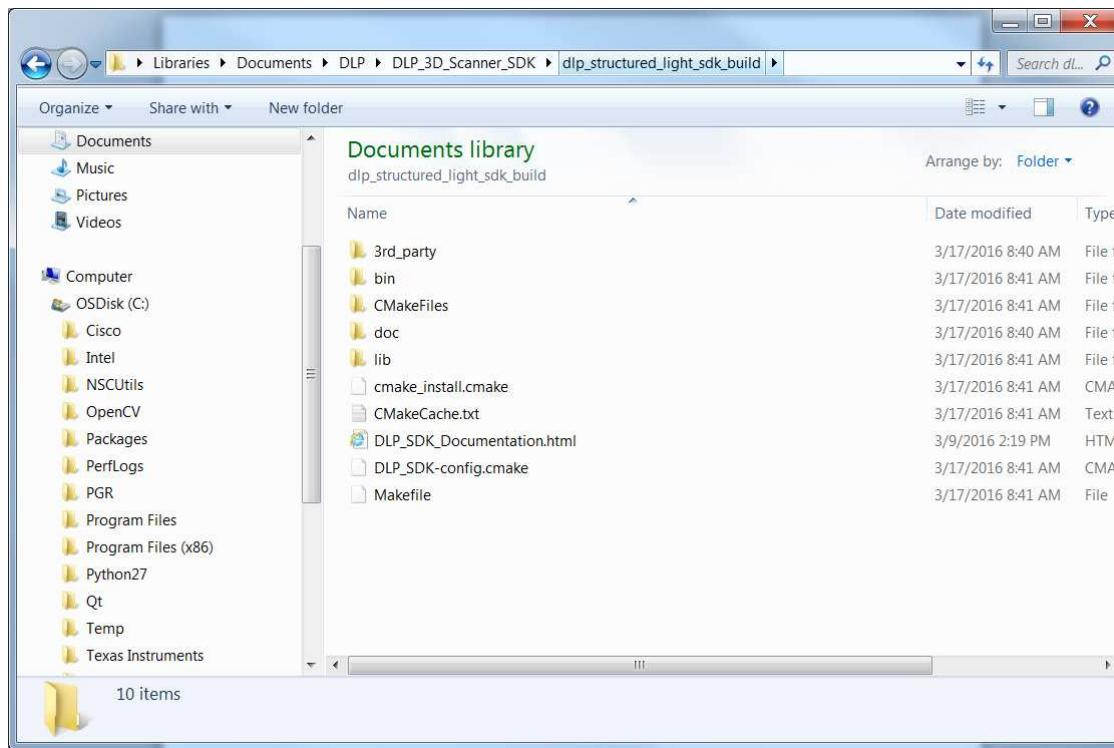

Figure 48. Browse for DLP ALC SDK Built Files
6. As shown in Figure 48 and Figure 49, browse to the location of the built DLP ALC SDK files and type “cmd” in the file path and hit enter.